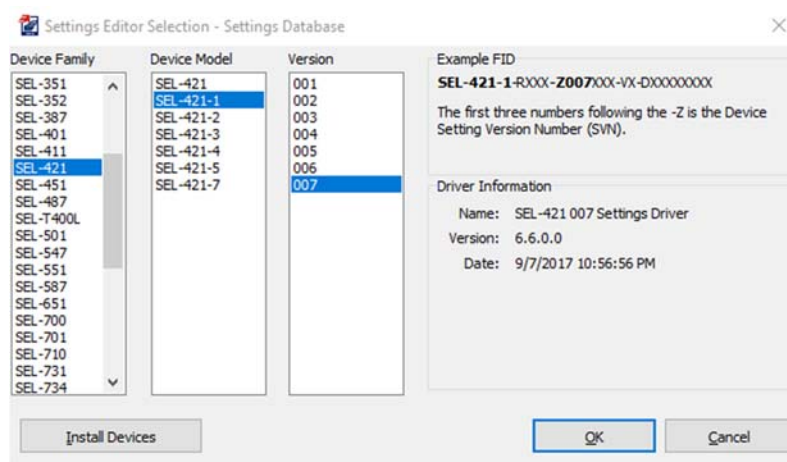

Figure 50: Select 421 Part Number
- f. Choose the Device Family, Model, and Version for this specific relay unit from the available menus, then click Ok (Figure 50). Look up the relay’s version number using the front-panel interface on the relay. Press the ENT button, and use the down-arrow button to navigate to the STATUS option. Press the enter button again. Select the Relay Status option. The first three digits following the ‘Z’ in the “Z-number” comprise the relay version number. Press the ESC button several times to restore the front-panel screen to its normal display. Note: if no devices are listed in the QuickSet drop-down menus, then the device drivers need to be installed using the SEL Compass software. Ask for assistance.